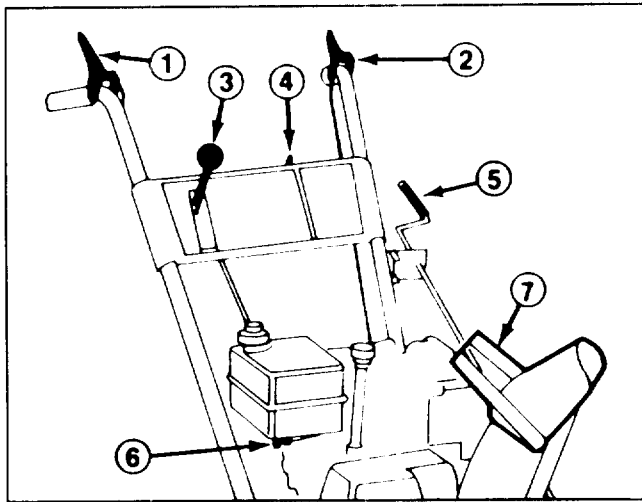
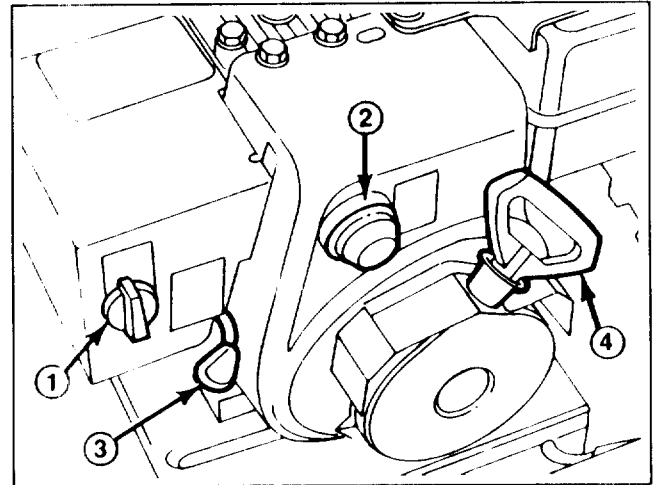
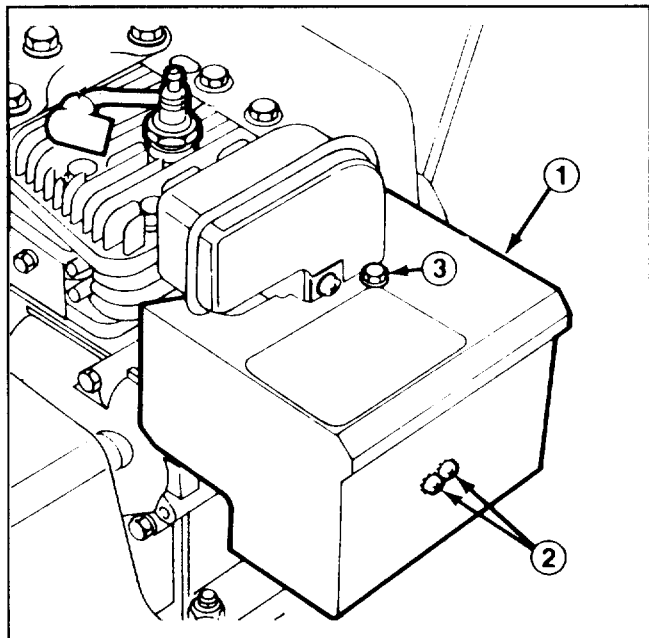

Figure 14
Figure 15
Figure 16
**Auger Drive Control** (Fig. 14)—Control has two positions: ENGAGE and DISENGAGE. To engage both auger and impeller, compress lever against right handgrip. To disengage, release lever.
**Traction Control** (Fig. 14)—To engage traction (wheel drive), lever must be compressed against left handgrip. To stop traction, release lever.
**Speed Selector** (Fig. 14)—The control has four positions: reverse, 1, 2 and 3. To change speeds, move gear shift to position desired. Lever will lock in notch at each speed selection. Use positions 1, 2 or 3 depending on snow conditions.
**Ignition Switch** (Fig. 14)—Switch has two positions: ON and OFF. Rotate key to ON position before starting engine with the recoil starter. To stop engine, rotate key to OFF.
**Throttle** (Fig. 15)—Moving the throttle upward increases engine speed.
**Choke** (Fig. 15)—Rotate choke to FULL choke position to start a cold engine. As engine warms up, move choke gradually to OFF.
**Primer** (Fig. 15)—Press primer to pump a small amount of gasoline into engine for improved cold weather starting.
**Fuel Shut-Off Valve** (Fig. 14)—Valve is located under fuel tank. Close valve to stop fuel flow from fuel tank and open valve to allow fuel to flow to the carburetor. Close valve when snowthrower is not in use.
**Discharge Chute Control** (Fig. 14)—Rotate discharge chute control clockwise to move discharge chute to the left and counterclockwise to move chute to the right.
**Recoil Starter** (Fig. 15)—Recoil starter is on back side of engine. Pull recoil starter to start engine.
**Chute Deflector Handle** (Fig. 14)—Deflector handle is on top of discharge chute, and it is used to control height of the snow stream.
**Note:** If engine is operated when temperature is +40° F (4° C) or higher, remove carburetor heater box (Fig. 16). However, the heater box must be reinstalled when temperature falls below +40° F (4° C). To remove heater box:
- A. Remove (2) phillips screws and (1) hex head screw securing heater box in place (Fig. 16). Pull choke knob off choke rod (Fig. 15).
1. Move throttle (Fig. 15) to FAST.
2. Open fuel shut-off valve below fuel tank (Fig. 14).
3. Rotate choke (Fig. 15) to full choke position.
4. Rotate ignition key (Fig. 14) to ON.
6. Grasp recoil starter handle (Fig. 15) and pull it out slowly until positive engagement results; then pull vigorously to start the engine. Keep firm grip on starter handle and return the rope slowly.
7. After engine starts, immediately rotate choke (Fig. 15) to 3/4 position. As engine warms up, rotate choke to 1/2 position; then to OFF position. If engine falters, return choke to 1/2 position. When engine warms sufficiently, rotate choke to OFF position.
1. Release traction and auger drive controls (Fig. 14).
2. Move throttle (Fig. 15) to slow and rotate ignition key (Fig. 14) to OFF.